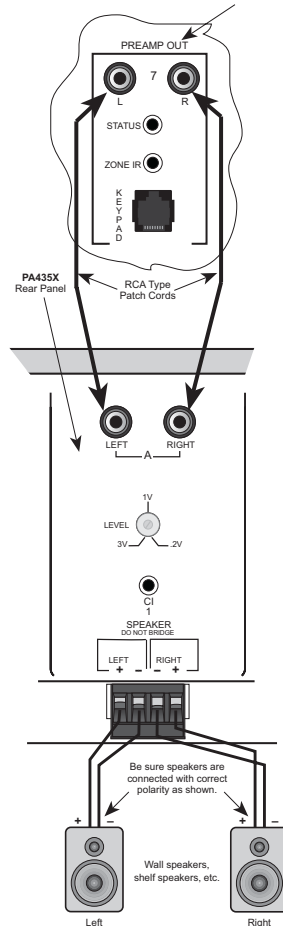

Figure 5 - PA4100X Stereo Mode Connections
1. Using good quality RCA-type patch cables connect the L and R OUTPUT jacks of the MRC88 Pre Amp Output or other driving preamp to the LEFT and RIGHT input jacks on the PA4100X. Do this for each amplifier pair. Refer to Fig. 5.
5. Be sure to observe correct polarity by connecting the "+" and "-" terminal from each channel on the PA4100X to the corresponding "+" and "-" terminals on each speaker. This will ensure correct "phasing" - see Fig. 5 and Speaker Phasing below. Since the connectors are removable, you may unplug them for ease of lead assembly.
- a) If the "+" (positive) and "-" (negative) terminals on your speakers are correctly marked, and visible, and you have wired the system as shown in Figs. 5, then the system will be "in phase". No further action is required. Most manufacturers identify the positive terminal with a red binding post, a "+" sign, or a red dot.